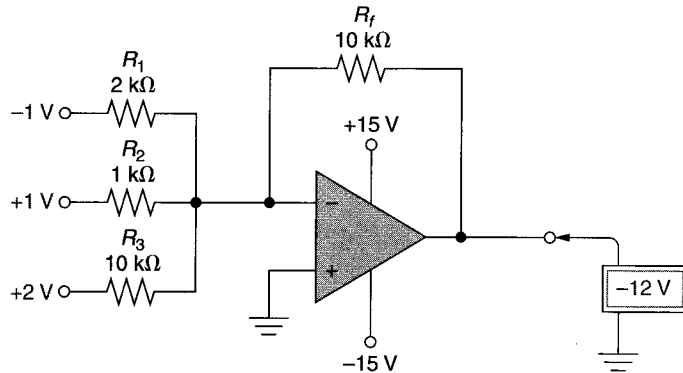

FIGURE 16.45
23. The circuit shown in Figure 16.45 has the readings indicated. Determine the possible cause(s) of the problem.